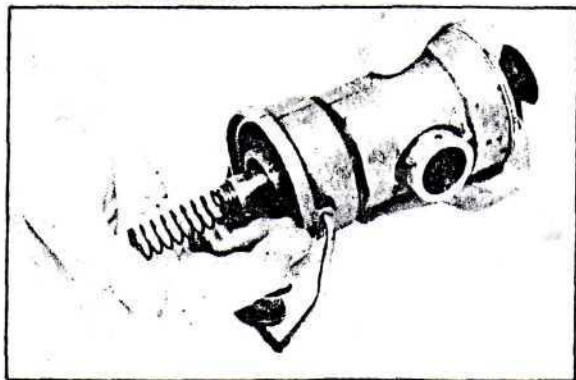

FIGURE 5
1. Turn pump right side up; the power spring and piston should fall into the hand (Figure 5). If piston sticks, tap pump body on hard surface.